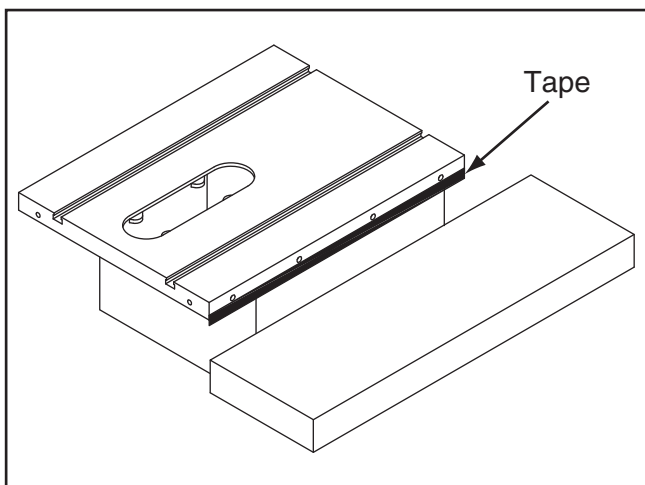

Figure 10. Shimming table up with masking tape.
- If outside edge of sliding table tilts down, use strips of masking tape along bottom edge of saw table (see **Figure 10**) to shim sliding table up and even with saw table from side to side.